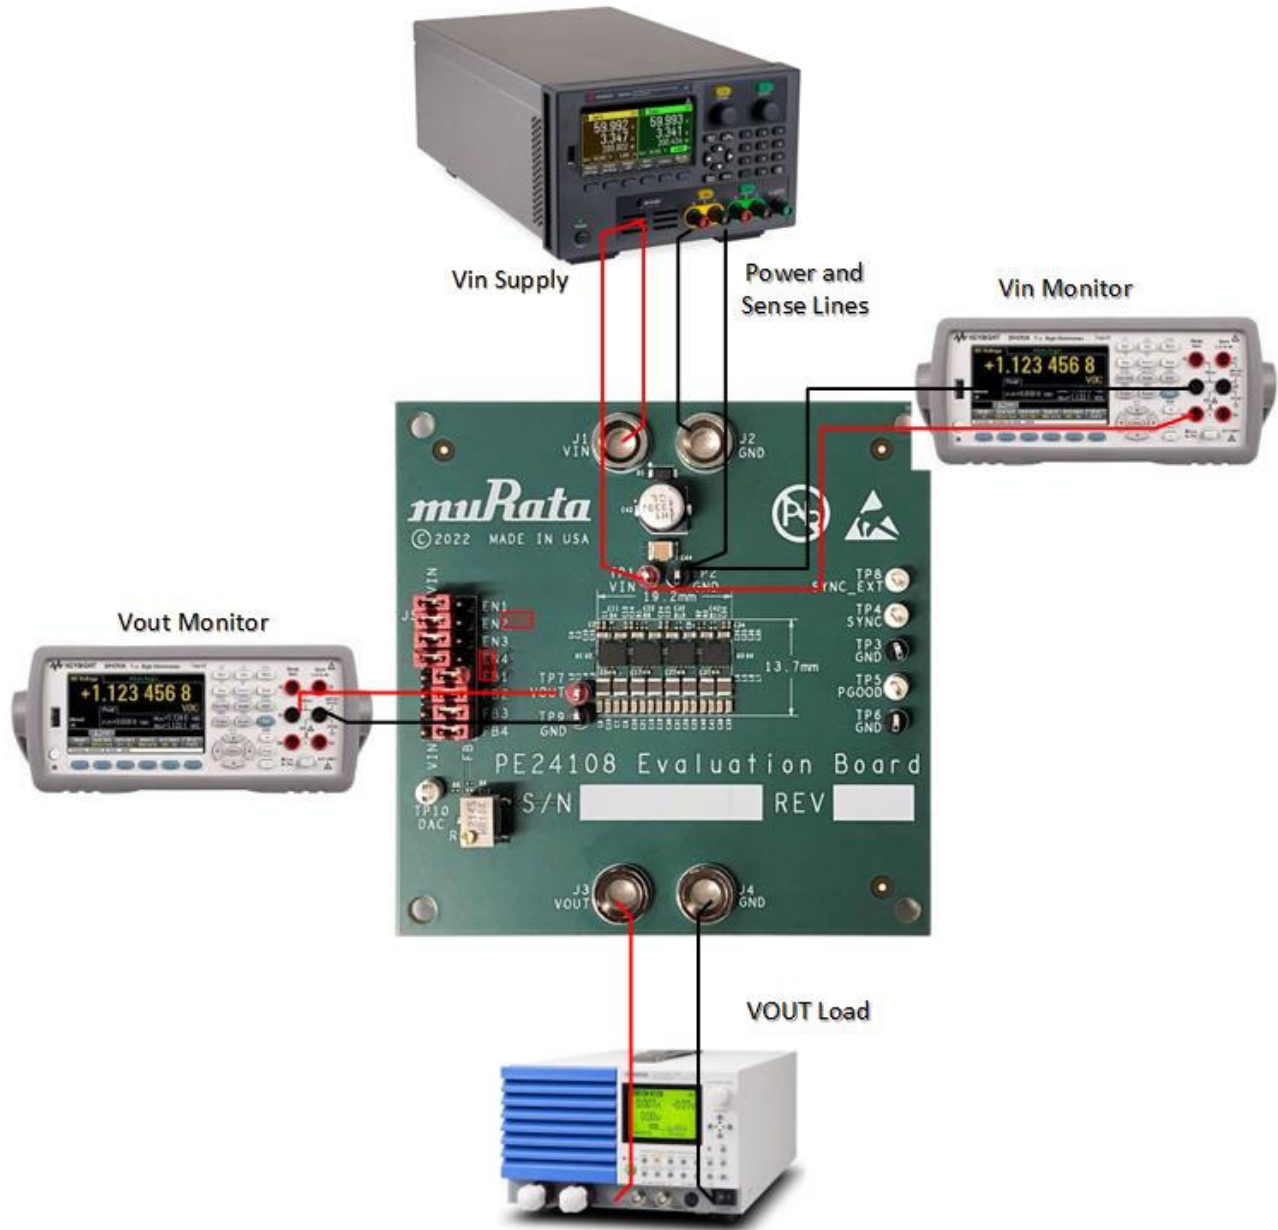

Figure 2. EVK Connection Example
Connect the EVK and the lab equipment as shown in Figure 2. The power supply sense lines should be connected to the TP1 and TP2 test points to insure minimal supply droop and accurate voltage regulation at the device input. Due to the high currents present, especially in the x3 and x4 configurations, it is advised to use heavy gauge connection wires for the supply and load.
2. Connect the power supply and sense lines, load and meters are in Figure 2.